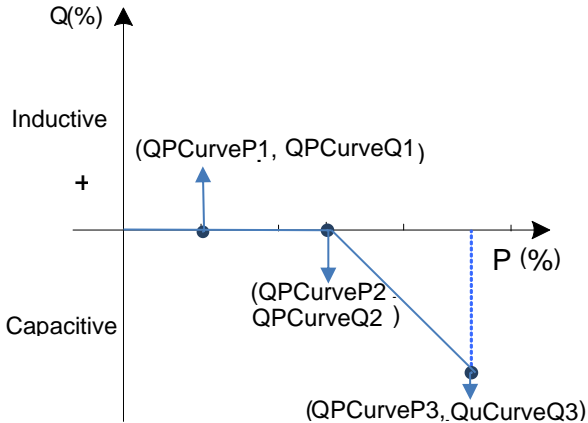

Figure 6-18 Q(P) Curve Mode
4. Q(P) Curve: Q(P) curve mode. Using the curves to set the reactive power setpoints (See Figure 6-18). The reactive power compensation changes according to the active power.